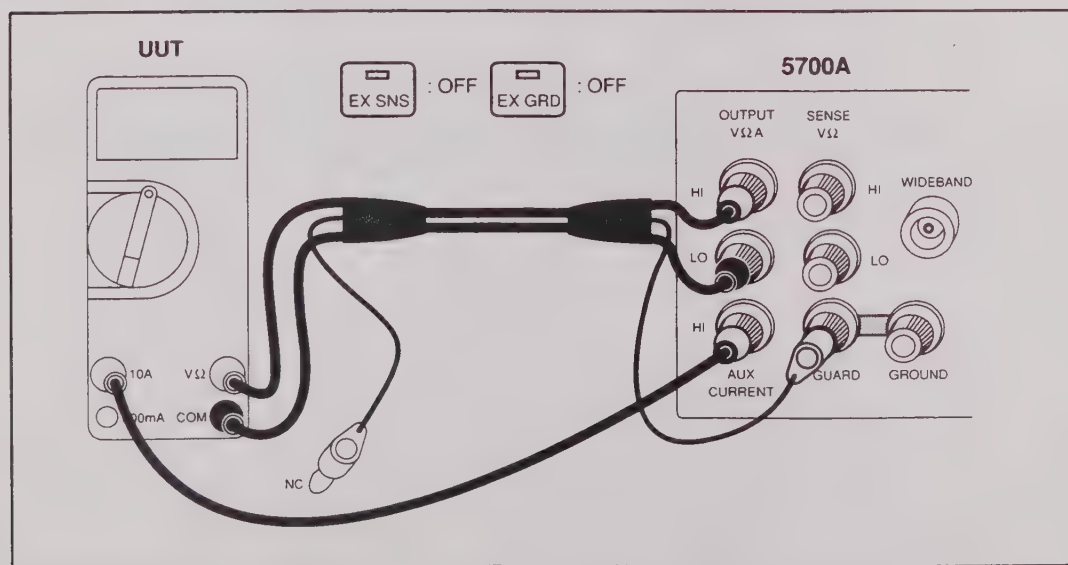

Figure 4-11. Cable Connections for Testing a Fluke 70 Series DMM
- a. Verify that the 5700A is in standby and connect the DMM as shown in Figure 4-11.